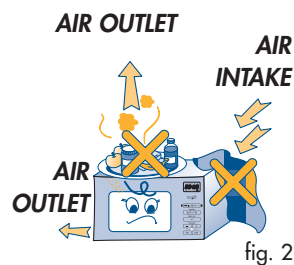
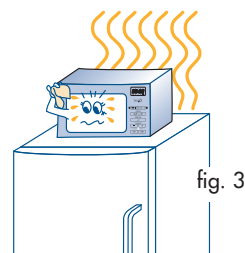

fig. 2
fig. 3
- 6) Do not block the air intake vents. In particular, never place anything on top of the oven and make sure the air and steam outlet vents (on the top, bottom and rear of the appliance) are ALWAYS FREE (fig. 2).
- 7) Place the turntable support (H) in the centre of the circular housing and rest the turntable (G) on top. The turntable support (H) must be inserted into the housing in the centre of the turntable.
**NB: never place the oven on or near heat sources (for example, on top of a refrigerator) (fig. 3).**